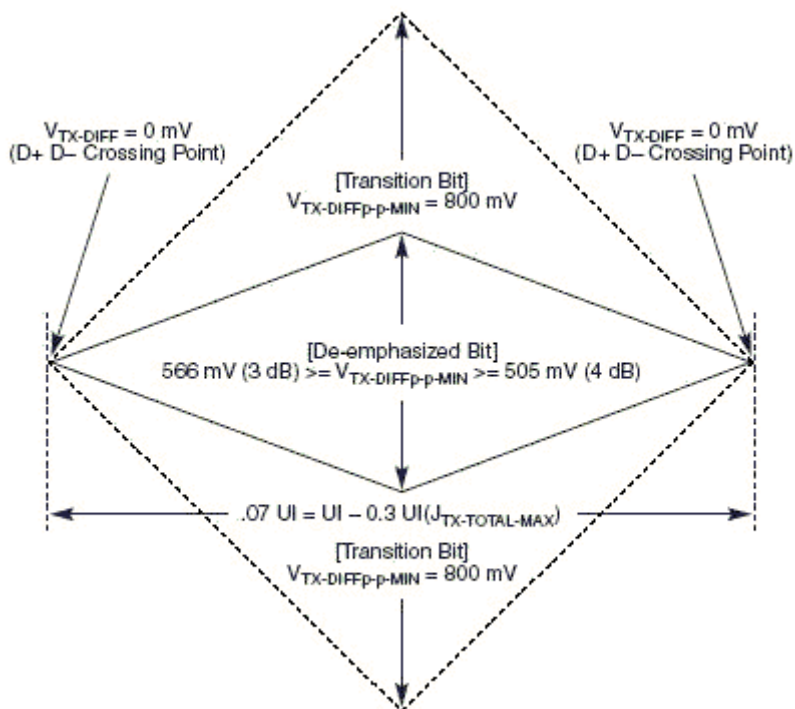
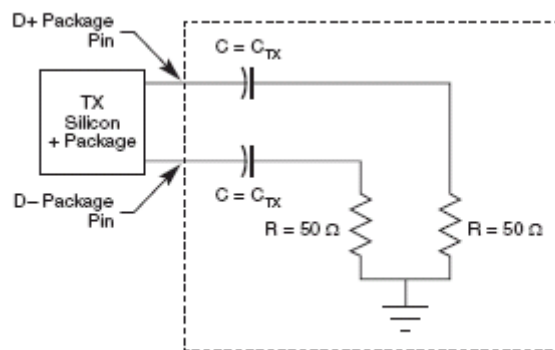

Figure 50. Minimum Transmitter Timing and Voltage Output Compliance Specifications
Figure 52. Compliance Test/Measurement Load
2.) Specified at the measurement point into a timing and voltage compliance test load as shown in <a href="#">Figure 52</a> and measured over any 250 consecutive TX UIs. (Also refer to the transmitter compliance eye diagram shown in <a href="#">Figure 50</a> )
4.) The Transmitter input impedance shall result in a differential return loss greater than or equal to 12 dB and a common mode return loss greater than or equal to 6 dB over a frequency range of 50 MHz to 1.25 GHz. This input impedance requirement applies to all valid input levels. The reference impedance for return loss measurements is 50 ohms to ground for both the D+ and D- line (that is, as measured by a Vector Network Analyzer with 50 ohm probes—see <a href="#">Figure 52</a> ). Note that the series capacitors $C_{\text{TX}}$ is optional for the return loss measurement.
5.) Measured between 20-80% at transmitter package pins into a test load as shown in <a href="#">Figure 52</a> for both $V_{\text{TX-D+}}$ and $V_{\text{TX-D-}}$ .
The TX eye diagram in Figure 50 is specified using the passive compliance/test measurement load (see Figure 52) in place of any real PCI Express interconnect + RX component.
- 2.) Specified at the measurement point and measured over any 250 consecutive UIs. The test load in Figure 52 should be used as the RX device when taking measurements (also refer to the Receiver compliance eye diagram shown in Figure 51). If the clocks to the RX and TX are not derived from the same reference clock, the TX UI recovered from 3500 consecutive UI must be used as a reference for the eye diagram.
- 4.) The Receiver input impedance shall result in a differential return loss greater than or equal to 15 dB with the D+ line biased to 300 mV and the D- line biased to -300 mV and a common mode return loss greater than or equal to 6 dB (no bias required) over a frequency range of 50 MHz to 1.25 GHz. This input impedance requirement applies to all valid input levels. The reference impedance for return loss measurements for is 50 ohms to ground for both the D+ and D- line (that is, as measured by a Vector Network Analyzer with 50 ohm probes - see Figure 52). Note: that the series capacitors  $C_{TX}$  is optional for the return loss measurement.
The RX eye diagram in Figure 51 is specified using the passive compliance/test measurement load (see Figure 52) in place of any real PCI Express RX component.
Note: In general, the minimum Receiver eye diagram measured with the compliance/test measurement load (see Figure 52) will be larger than the minimum Receiver eye diagram measured over a range of systems at the input Receiver of any real PCI Express component. The degraded eye diagram at the input Receiver is due to traces internal to the package as well as silicon parasitic characteristics which cause the real PCI Express component to vary in impedance from the compliance/test measurement load. The input Receiver eye diagram is implementation specific and is not specified. RX component designer should provide additional margin to adequately compensate for the degraded minimum Receiver eye diagram (shown in Figure 51) expected at the input Receiver based on some adequate combination of system simulations and the Return Loss measured looking into the RX package and silicon. The RX eye diagram must be aligned in time using the jitter median to locate the center of the eye diagram.
The reference impedance for return loss measurements is  $50\Omega$  to ground for both the D+ and D- line (i.e., as measured by a Vector Network Analyzer with  $50\Omega$  probes—see Figure 52). Note that the series capacitors,  $C_{TX}$ , are optional for the return loss measurement.
The AC timing and voltage parameters must be verified at the measurement point, as specified within 0.2 inches of the package pins, into a test/measurement load shown in Figure 52.